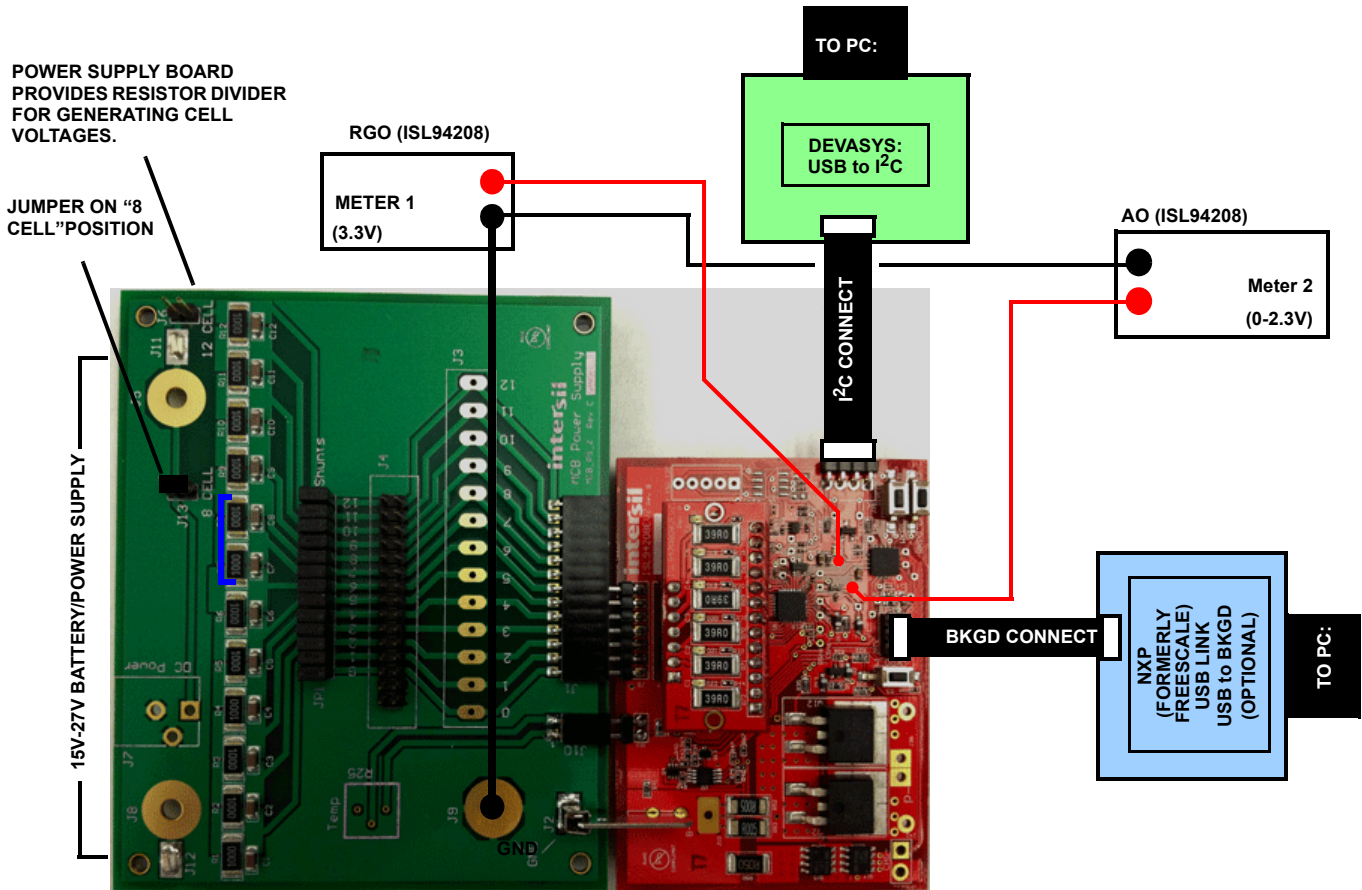

FIGURE 4. ISL94208EVZ EVALUATION BOARD TEST CONNECTION
- Figure 4 shows a green board is connects between a power supply and the evaluation board. This multi-option board supports the connection a single power supply (using an on-board resistor divider), or separate power supplies for each input, or battery cells.
- Before connecting the PC to the ISL94208EVZ board (through the USB to I²C interface) turn off the power supply and then plug the ISL94208EVZ board into the power supply board as shown in Figure 4.
In normal operation, the cell voltages are scanned four times per second. If monitoring the AO voltage (as shown in Figure 4), the meter will not be stable, since it sees an output of a series of voltages. A scope can be used to monitor the AO output, or use the GUI to select a specific voltage or temperature. This operation by the GUI stops the microcontroller from automatically scanning the voltages and puts the selected voltage on AO constantly. Automatic scanning will not start again until the GUI selects Monitor "All" (see Figure 6).